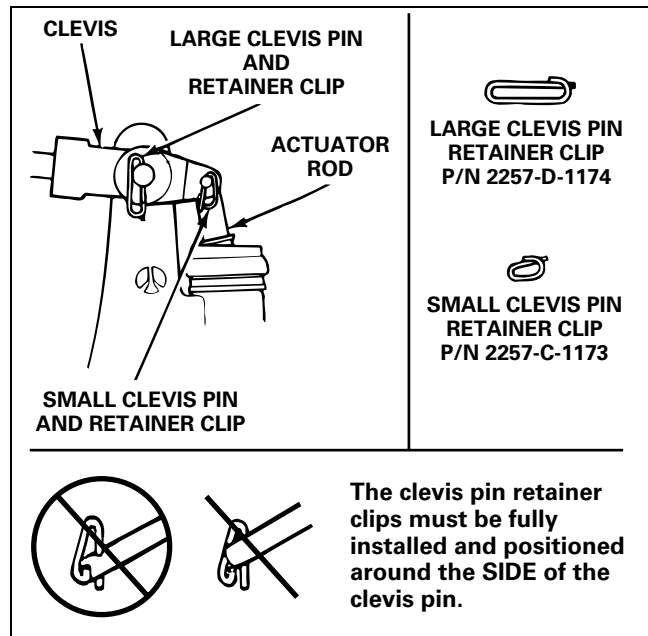

Figure 5.12
- Install new clevis pin retainer clips or cotter pins to secure the clevis pins. Retainer clips must be fully installed and positioned around the side of the clevis pin. Figure 5.12.